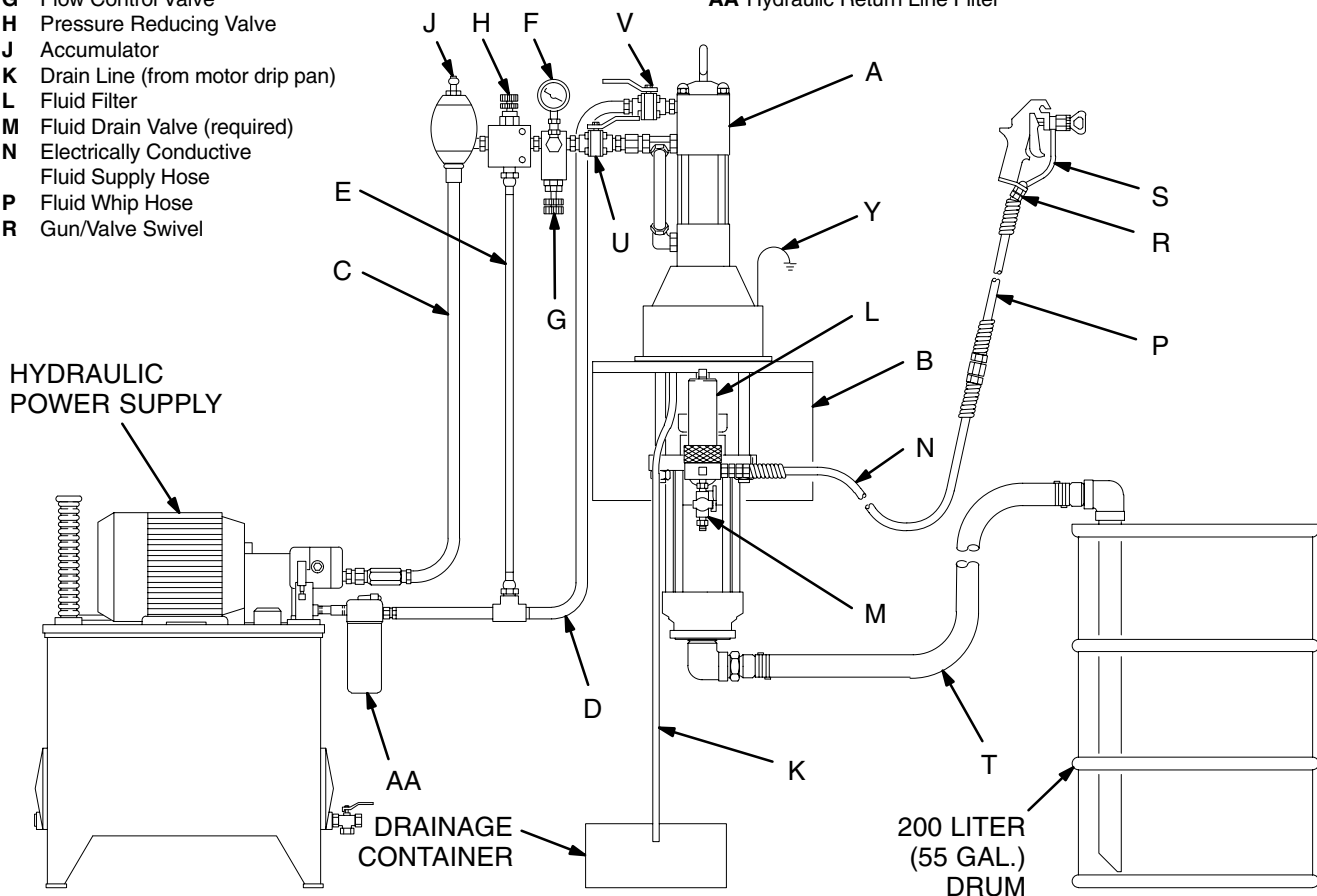

Fig. 4
Fig. 4 is only a guide for selecting and installing system components and accessories. Contact your Graco distributor for assistance in designing a system to suit your particular needs.
Mount the pump (A) to suit the type of installation planned. Fig. 4 illustrates a wall-mounted system. Pump dimensions and the mounting hole layout are shown on pages 40 and 41.
**On the hydraulic supply line (C),** install the following accessories in the order shown in Fig. 4, using adapters as necessary:
- **A shutoff valve (U)** isolates the pump for service.
- **A fluid pressure gauge (F)** to monitor hydraulic oil pressure to the motor and to avoid overpressurizing the motor or displacement pump, and **a pressure- and temperature-compensated flow control valve (G)** to prevent the motor from running too fast and possibly damaging itself.
- **A pressure reducing valve (H), with a drain line (E)** run directly to the hydraulic return line (D).
- **An accumulator (J)** to reduce the hammering effect caused by the motor reversing direction.
- On the hydraulic return line (D),** install the following accessories in the order shown in Fig. 4, using adapters as necessary:
- **A shutoff valve (V)** isolates the pump for service.
- **A filter (AA)** of 10 micron size.
Install the following accessories in the positions shown in Fig. 4, using adapters as necessary:
1. Refer to Fig. 4 on page 10. Connect the suction kit (T) to the pump's fluid inlet, and place the tube into the fluid supply.
3. Make certain that the supply line shutoff valve (U) and the return line shutoff valve (V) are closed.
5. Hold a metal part of the gun/valve (S) firmly to the side of a grounded metal pail and hold the trigger open.
6. Open the return line shutoff valve (V) *first*, then slowly open the supply line shutoff valve (U).